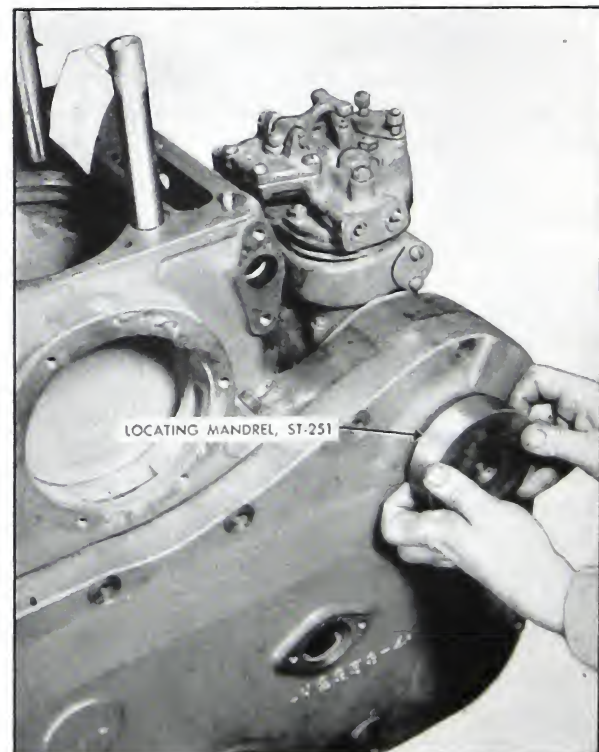

Fig. 2-60. Locating gear cover with ST-251
3. Use ST-251 for H and HR engines and ST-461 for NH engines to fit over the fuel pump and compressor drive shaft to locate new gear case covers to the block for dowelling. See Fig. 2-60.